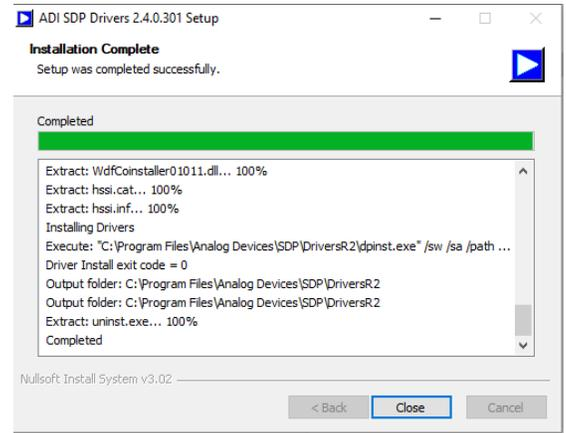

Figure 10. SDP Installation Complete
- 5. To complete the installation of the driver, click **Close**, which closes the installation wizard (see Figure 10).